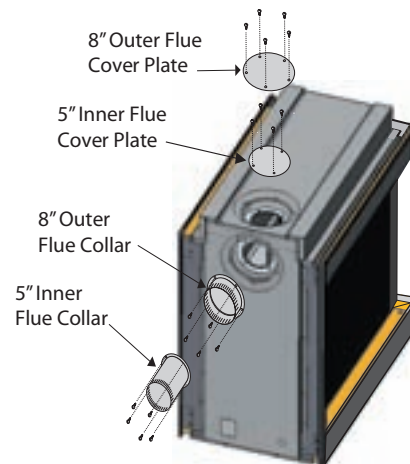

Figure 8a. Flue cover and collar installation, *Rear Vented* fireplace.
3. Install the (removed) Rear flue cover and gasket material, to the Top vent outlet. Fasten the cover with included hardware, as illustrated **Figure 8a**.
4. Install the (5" and 8") collars to the rear vent outlet using the included hardware, as illustrated **Figure 8a**.